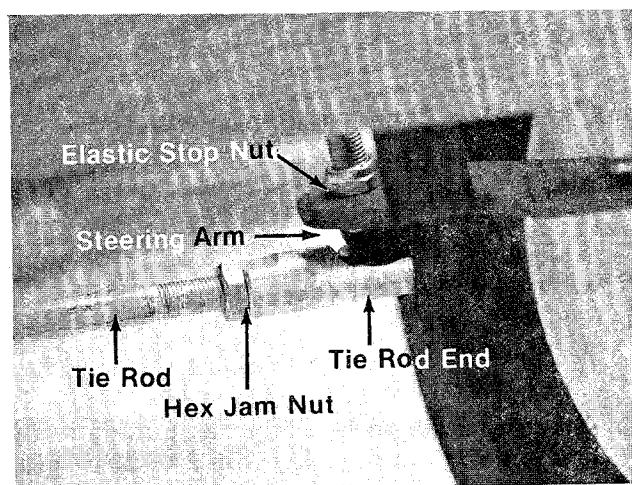

FIGURE 26.
1. Remove the elastic lock nut and drop the tie rod end from the wheel bracket. See figure 26.